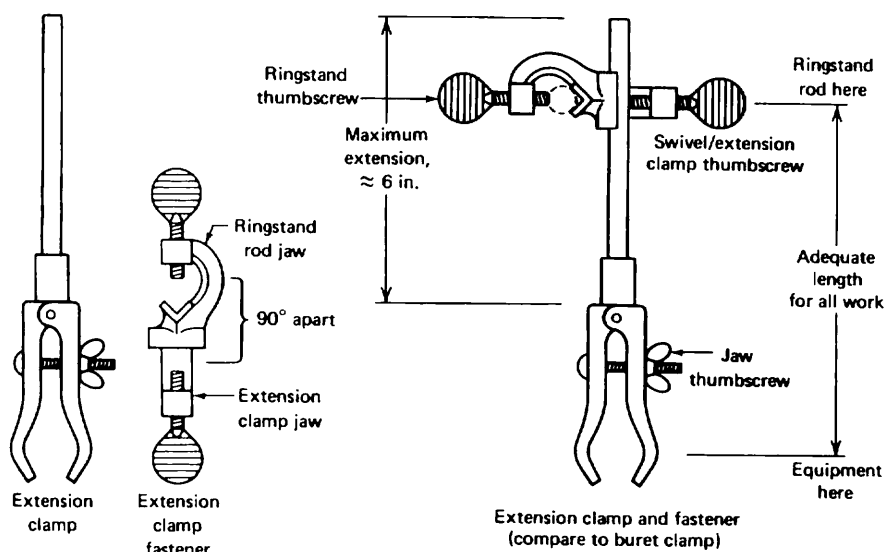

Fig. 88 The extension clamp and clamp fastener.
2. **The simple extension clamp and clamp fastener** (Fig. 88). This two-piece beast is the second best clamp going. It is much longer (approximately 12 inches), so you can easily get to complex setups. By loosening the **clamp holder thumbscrew**, the clamp can be pulled out, or pushed back, or rotated to any angle. By loosening the **ringstand thumbscrew**, the clamp, along with the clamp holder, can move up and down.